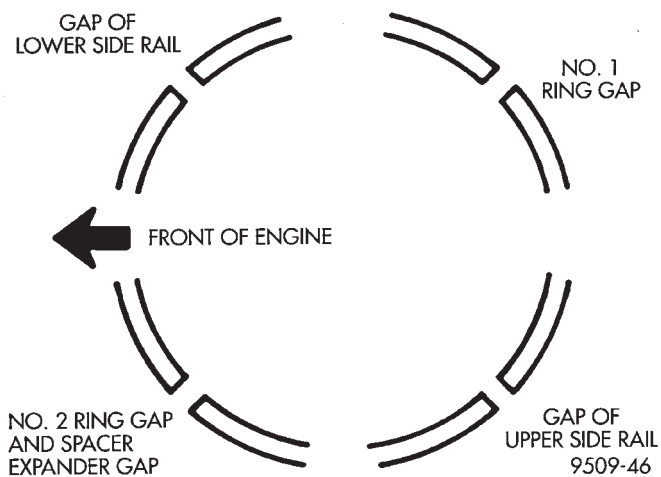

Fig. 119 Piston Ring End Gap Position
(4) Position piston ring end gaps as shown in (Fig. 119).
(5) Position oil ring expander gap at least 45° from the side rail gaps but **not** on the piston pin center or on the thrust direction. Staggering ring gap is important for oil control.
(1) Before installing pistons and connecting rod assemblies into the bore, be sure that compression ring gaps are staggered so that neither is in line with oil ring rail gap.
(2) Before installing the ring compressor, make sure the oil ring expander ends are butted and the rail gaps located as shown in (Fig. 119).